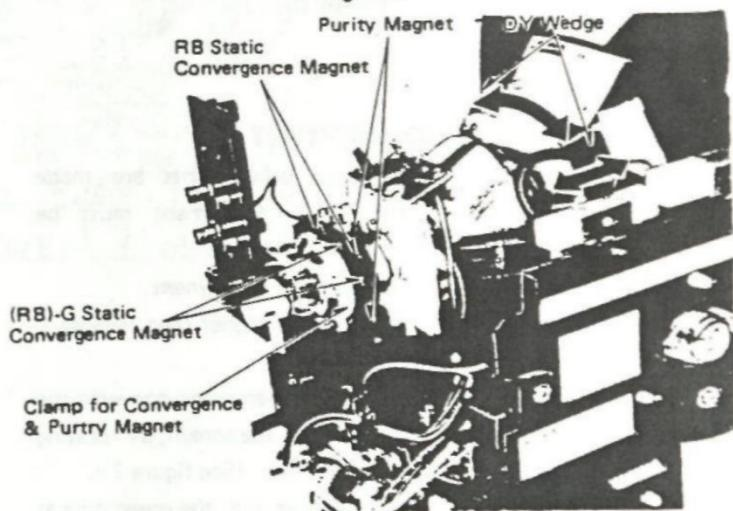

Figure 7
7. Loosen the purity magnet clamp (See figure 7) and adjust the purity magnet to set the vertical green raster precisely at the center of the screen. (See figure 8.) Then tighten the clamp.
3. Loosen the convergence magnet clamp and converge the red and blue dots at the center of the screen, by rotating the R-B Static Convergence Magnet. (See figure 7.)
4. Align the converged red/blue dots with the green dots at the center of the screen, by rotating the (RB)-G Static Convergence Magnet. (See figure 7.)
6. Remove the DY wedges (see figure 7) and slightly tilt (do not rotate) the deflection yoke horizontally and vertically to obtain good overall convergence.